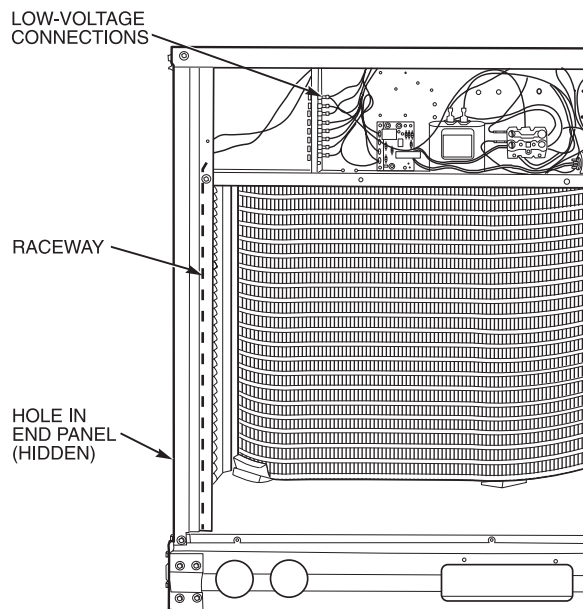

Fig. 8 — Field Control Wiring Raceway
3. Feed wire through the raceway built into the corner post to the 24-v barrier located on the left side of the control box. See Fig. 8. The raceway provides the UL-required clearance between the high- and low-voltage wiring.